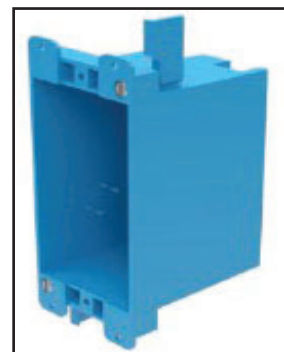

FIGURE 4 - PLASTIC RETROFIT GANG BOX
2. In living area (upstairs living space), install a PLASTIC RETROFIT SINGLE GANG BOX roughly 5 feet off the floor for the whole house fan wall controller to be mounted in (Refer to FIGURE 4). **DO NOT INSTALL METAL GANG BOX.** Select a location that will best sense the temperature for the living space. Do not install box in a location where the temperature will be influenced such as in direct sunlight, on an exterior wall, etc...